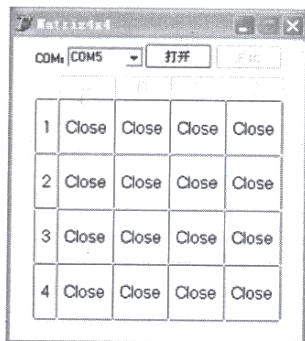

Figure 1
1. To open the control software and choose the serial port that connected with the Matrix and then click the Open,it will show as picture below.(the figure 2 is matched code of figure 1)